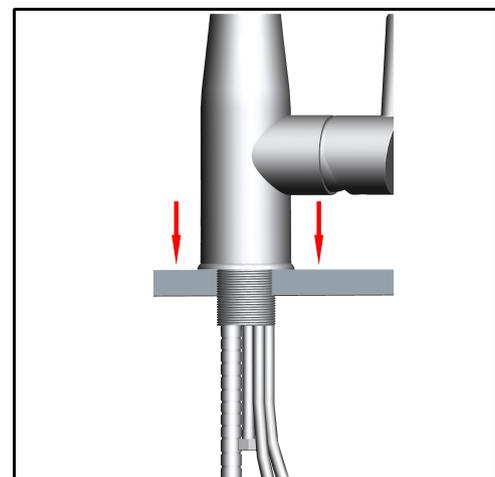

Figure 2
2. Place the faucet body into the faucet hole of the deck/sink (**Figure 2**). A standard 1-3/8" hole is required for this faucet.